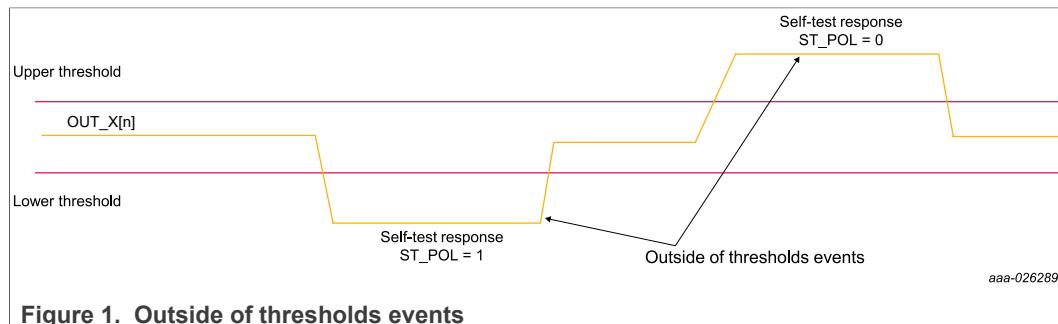

Figure 1. Outside of thresholds events
When this response signal is used as an input to the SDCD block in absolute comparison mode against a defined threshold (as shown in Figure 1), this inertial event caused by the self-test stimulus is detected as an Outside-of Thresholds (OT) event, when the magnitude of the response signal is greater than the threshold. A corresponding motion detection interrupt will also be triggered for the event.